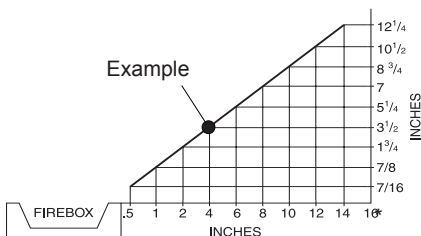

Figure 4 - Minimum Clearance for Combustible to Wall
- A. Clearances from side of fireplace cabinet to any combustible material and wall should follow diagram in Figure 4.
Example: The face of a mantel, bookshelf, etc. is made of combustible material and protrudes 3 1/2" from the wall. This combustible material must be 4" from the side of the fireplace cabinet (see Figure 4).